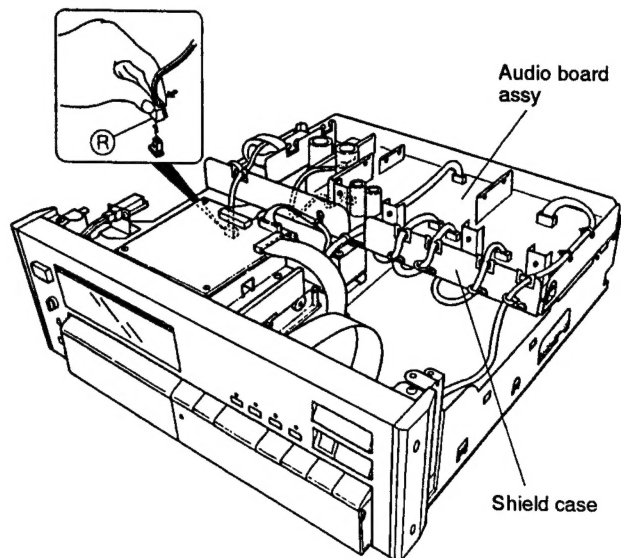

Fig. 7
1. Remove top plate R, top plate F, the right and left side boards and the rear panel to obtain the condition shown in Fig. 7. (A 2-mm diagonal hexagonal wrench is required to remove the side boards).
2. Disconnect the all connectors connected to the audio board assy and connector ⑭ of the power supply board assy.